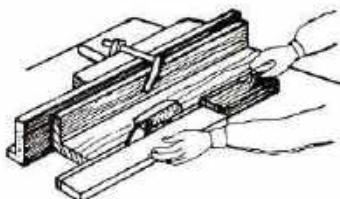

Fig.600 RIPPING WITH A PUSH SHOE
11. Use a push stick or shoe when cutting narrow beadings. Fig.600